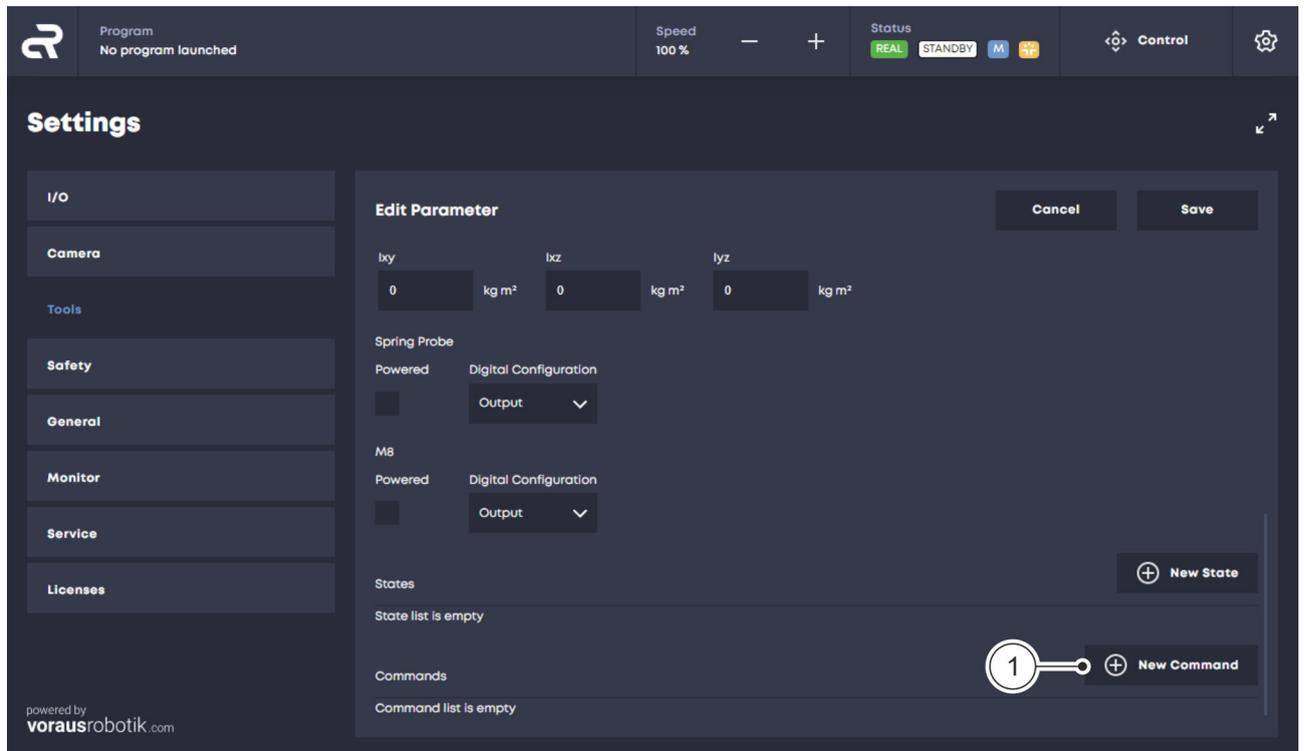

Fig. 23 Opening the 'New Command' menu
09. Click the 'New Command' button to open the 'New Command' menu Fig. 23 / ①.